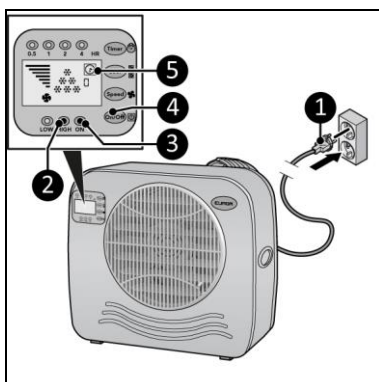

Figure 10
2. Place the power plug (Figure 10, pos. 1) into an earthed wall socket that is easily accessible. Use an earthed wall socket with a minimum power of 450 Watt.
- Press the ON/OFF button (Figure 10, pos. 4), the power indicator (Figure 10, pos. 3) and the high indicator (Figure 10, pos. 2) will light up. The display will show the time indicator and 6 cooling indicators (Figure 10, pos. 5). The device now operates at high capacity.